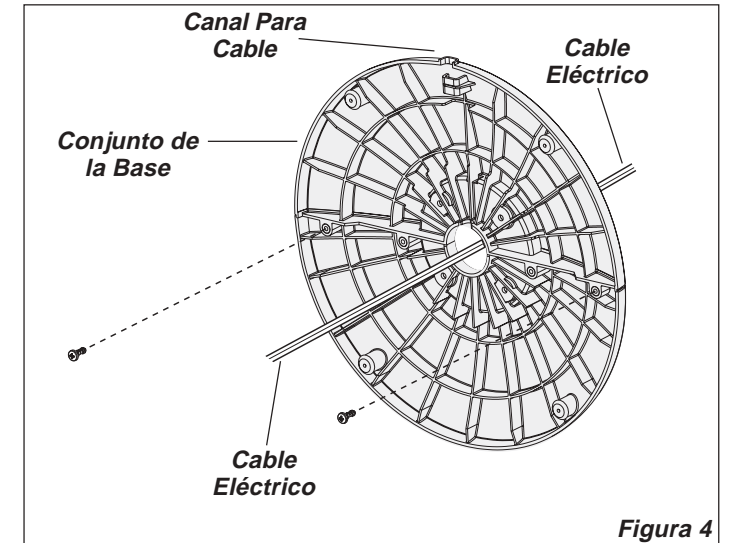

Figure 4
- 4. Secure the Base halves with (2) M4 X 13mm Screws. Thread the **Power Supply Cord** through the large hole in the **Base Assembly**. **NOTE:** The **Cord Channel** on the bottom of the **Base** should be towards the back of the Heater. (Figure 4)